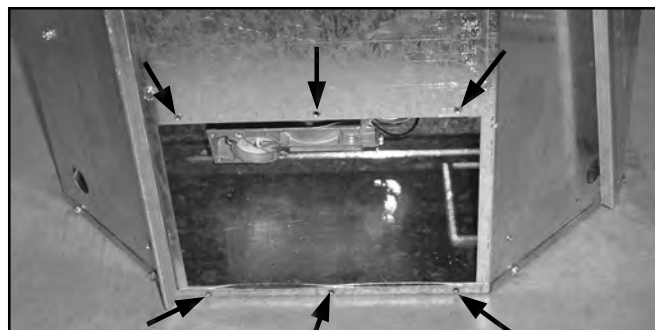

Figure 39: Removing Back Plate From Haven.
1. Use a flat head screwdriver or a $\frac{1}{4}$ " socket to remove the six (6) screws holding the back cover on (see Figure 39).